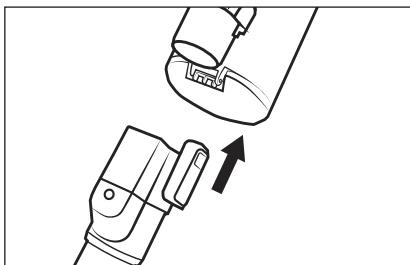

Fig. 1
- Push the suction pipe 24 onto the appliance until it audibly clicks into place (see Fig. 1).